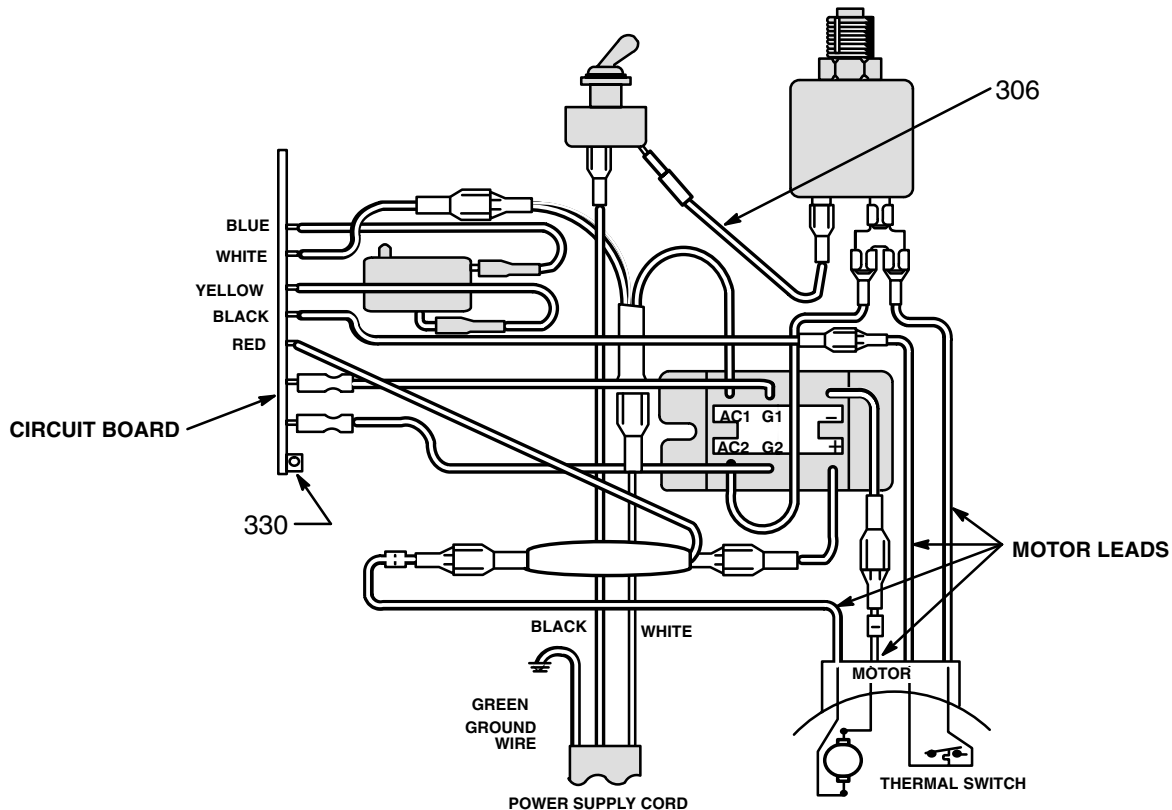

Fig 28-2
3. Disconnect ALL wires from the board, including the two heavy black wires. Pay close attention to where connections are made. See Fig 28-2.
4. To remove the board from the box, pull out the black plastic-tipped pin (330). Push the bottom of the circuit board toward the wall of the box and carefully slide the board out.
6. Reconnect all wires. Refer to the wiring diagram in Fig 28-2. Ease the pin (330) into the retainer.
1. Disconnect the main fluid outlet hose and the secondary fluid hose, if used. Disconnect the fluid hose (30) between the adapter (31) and the nipple (344).
2. Loosen the nut (69) which holds the threaded end of the adapter (55) to the pressure control mounting bracket (7).
3. Hold the hex of the pressure control adapter (341) firmly with a 3/4" open end wrench. Use an adjustable wrench to unscrew the swivel union (12), and then remove the fluid filter assembly (10).
4. Remove the pressure control cover and screws. Disconnect the four motor leads at the appropriate terminals. See Fig 28-2.
6. Remove the conduit (21).
7. Remove the screws (27), lockwashers (44) and nuts (45) located below the pressure control.
8. Remove the screws (8) holding the back mounting bracket (7) to the pressure control.
9. Remove items 306 to 345 from the pressure control and reinstall them in the new pressure control.
10. Install the new pressure control assembly in the reverse order of disassembly. Be sure to reinstall the conduit seal (78) around the wires in the conduit connector (345) to prevent motor contamination from entering the pressure control.